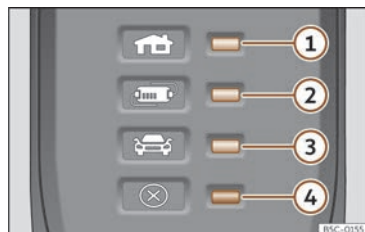

Fig. 62 On the charging cable for power sockets: Indicator lamps on the protection device.
>>> **Fig. 62:**
The electronic protection device >>> Fig. 62 ensures that the charging connector does not receive current until it is plugged in to the vehicle's charging connector.
One or more control lamps >>> Fig. 62 ①, ② or ③ light up green.
Display >>> Fig. 62	Meaning
①, ④ flashing	The housing connector has overheated.
②, ④ flashing	The protection device has overheated.
If the charging process continues with a lower current, both the operating indicator and the warning lamp >>> Fig. 62 ④ flash red.
- If it disconnects again, or the charging current reduces and the cause does not seem to be exposure to an external heat source, make sure that the green control lamp is flashing >>> Fig. 62. Visit a specialised CUPRA dealer or any SEAT network dealer to check the charging cable. Get an establishment that specialises in electrical installations to check the infrastructure connection.
If the red warning light ④ flashes or turns on without one of the indicator lamps >>> Fig. 62 ①, ② or ③ also turning on continuously on the status indicator, there is a fault.